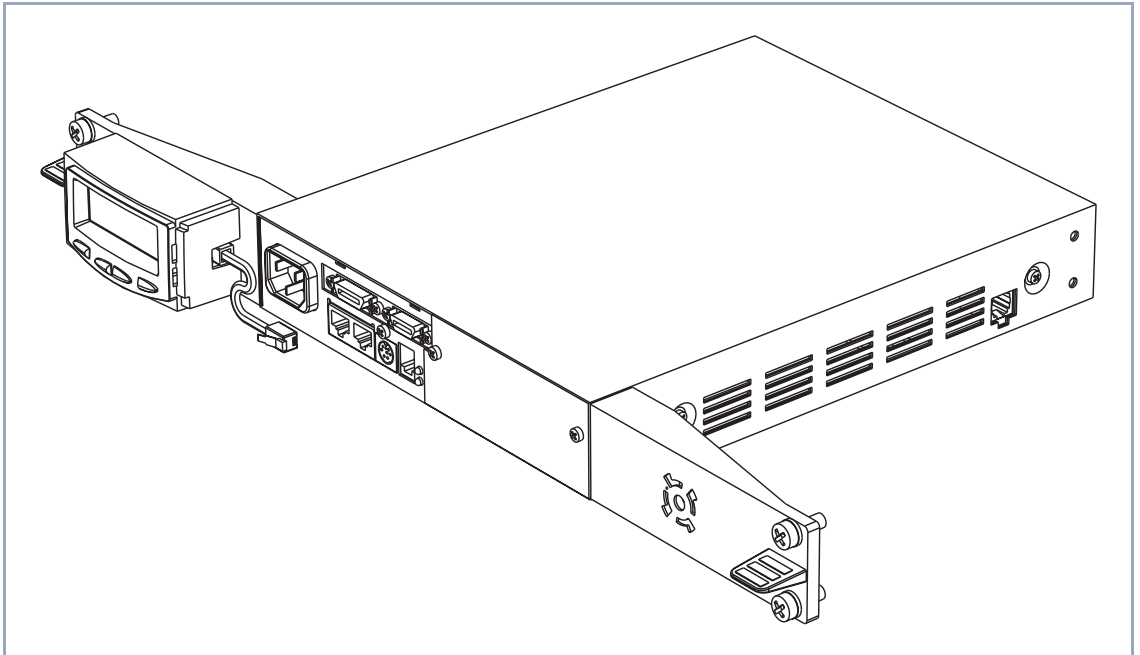

Figure 3-12: Mounting the display on one of the side brackets
- Step 5** ➤ Mount the display unit on one of the two fixing brackets. Make sure that the display unit engages properly, see Figure 3-12, page 51.